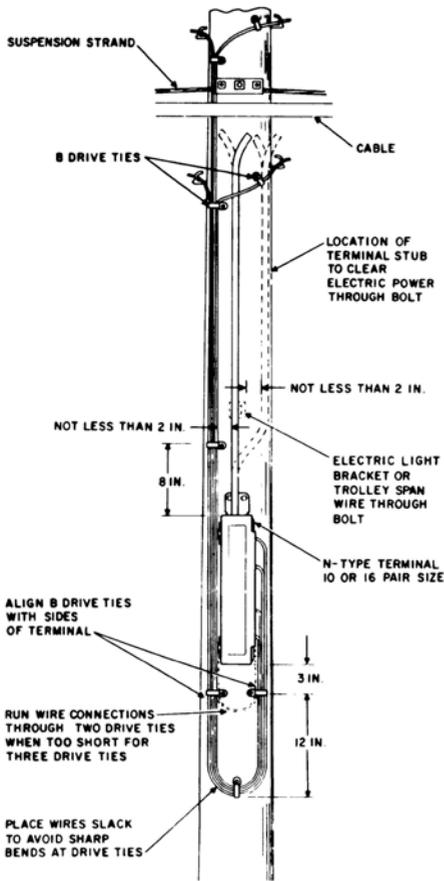

Fig. 12—Running Drop Wire to 10 or 16 Pair N-Type Cable Terminal Mounted on Pole
4.06 Refer to Fig. 12 and 13 for typical arrangements of drop wires at N-type terminals which are mounted on poles.